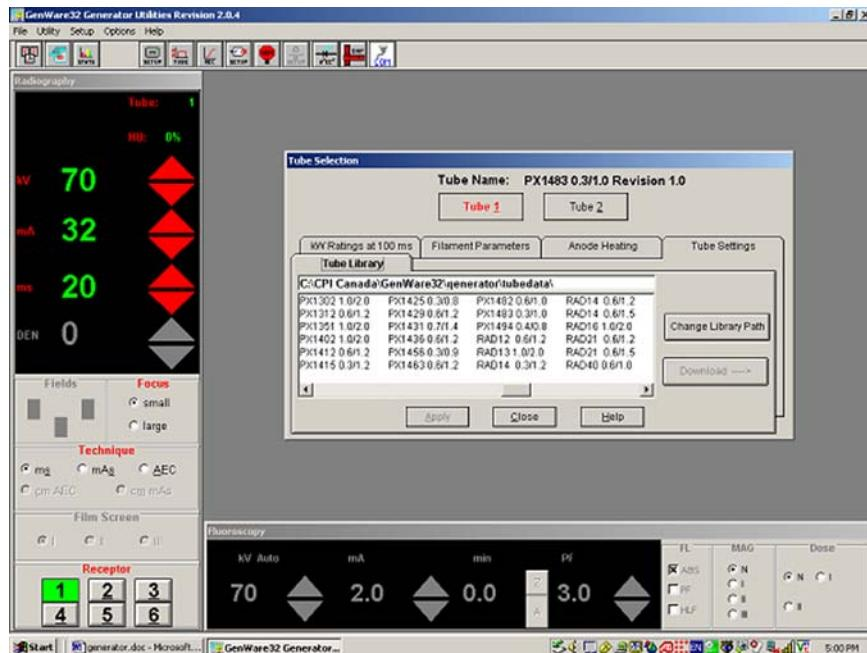

Figure 8-8
3. Select “Setup” from the top menu bar and Tube selection as in Figure 8-8. Select PX1483 0.3/1.0 and then press “download”.